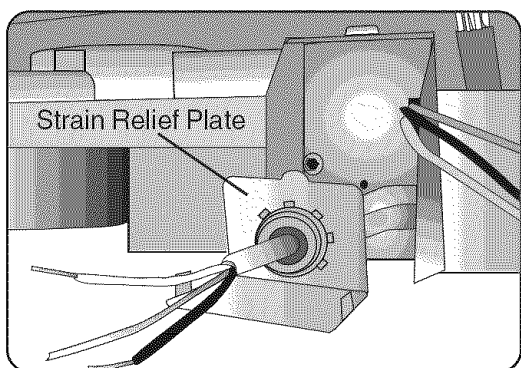

Figure 28
- 2 Pass the electrical supply cable through the strain relief, as shown in **Figure 28**. Leave 3 - 4 inches of insulated wire extending through the strain relief plate.